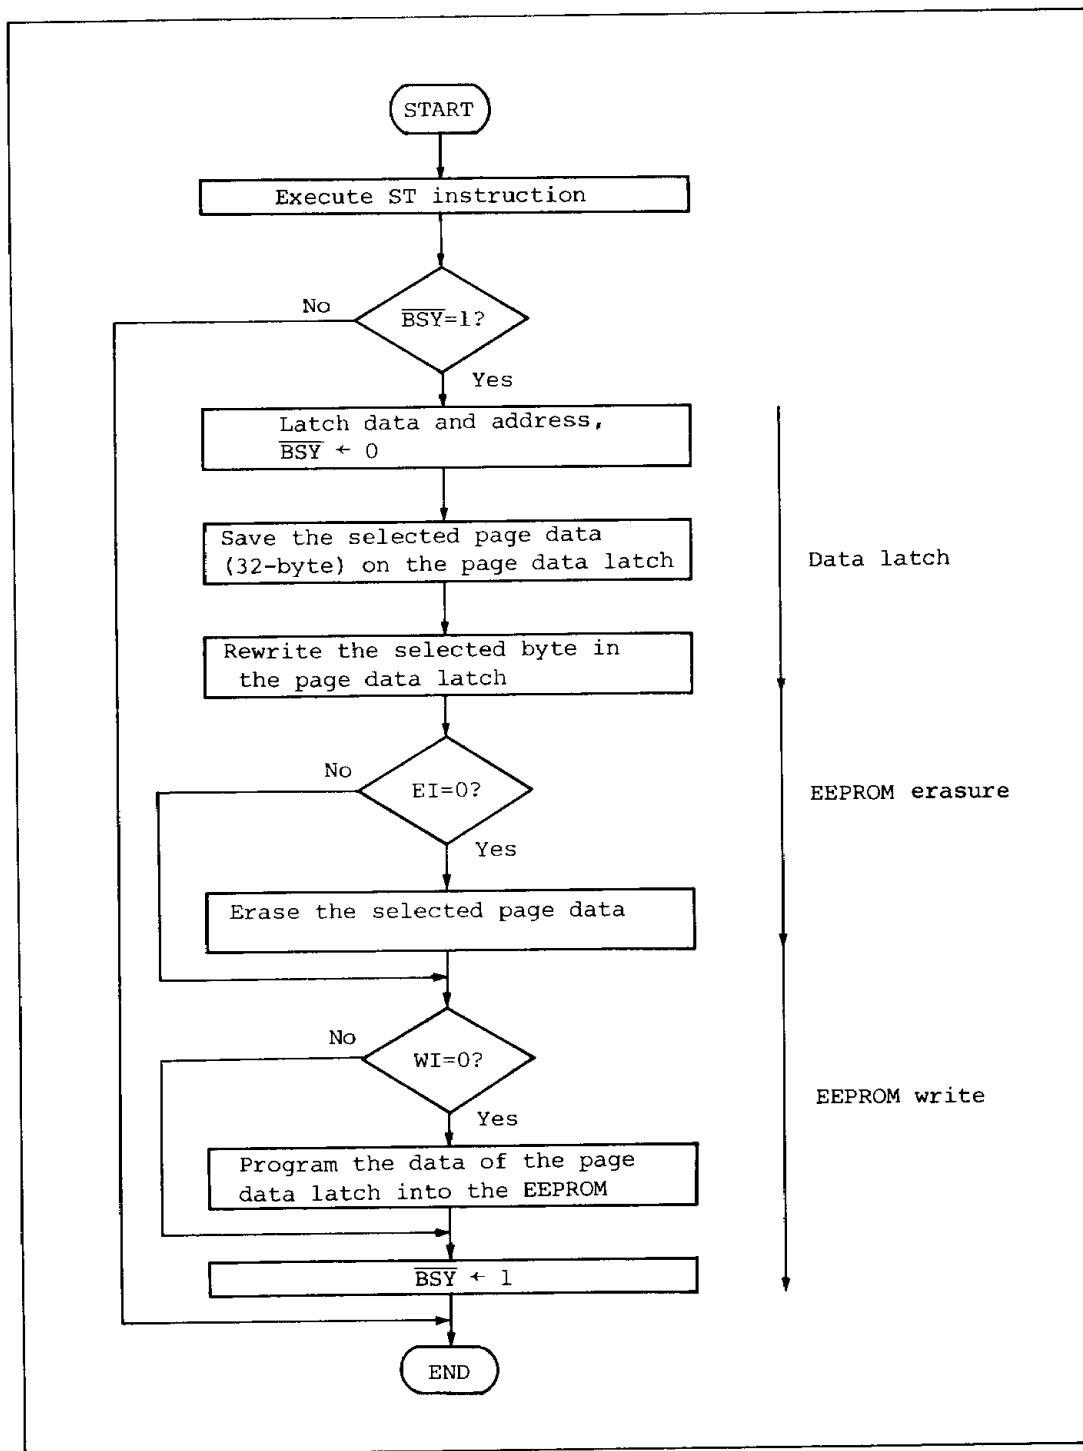
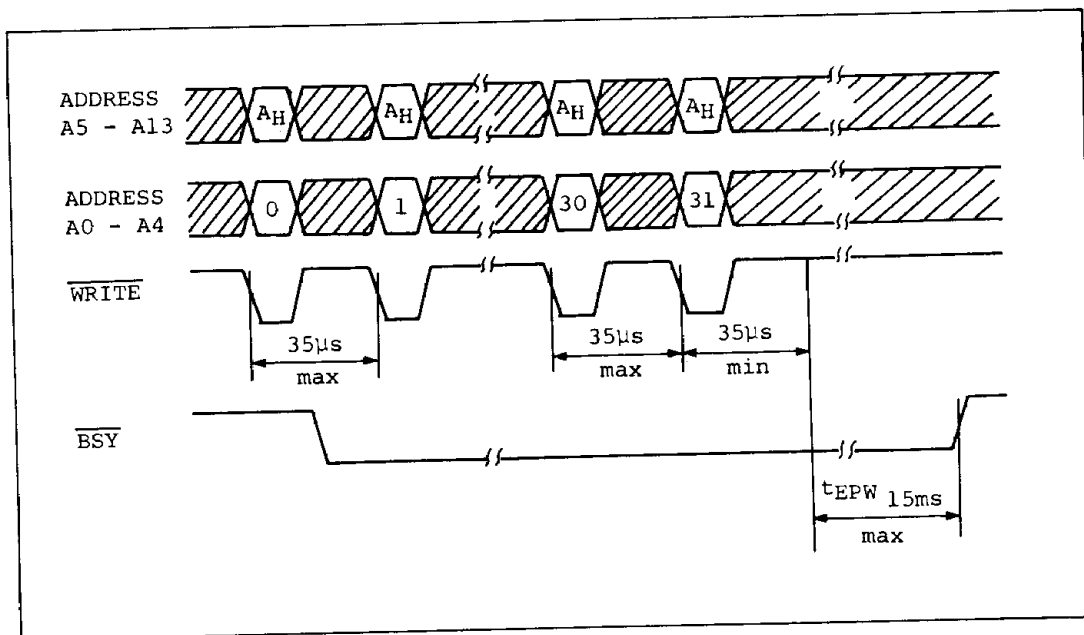

Figure 3-5 EEPROM Erase/Write Sequence
Figure 3-7 Page Write Timing
Figure 3-5 summarizes EEPROM erase/write sequence.
(4) Page write (EI=0): Write operations are done on page basis as shown in Figure 3-5. Therefore more than one byte (2 to 32 bytes) can be written in one write cycle if writing data are existing in a same page. The operations are performed easily by writing the data consecutively during data latching. The intervals of each written data must be less than $35\mu\text{s}$. Figure 3-7 shows the timing required for page write. It takes a maximum of 15ms to write one page.